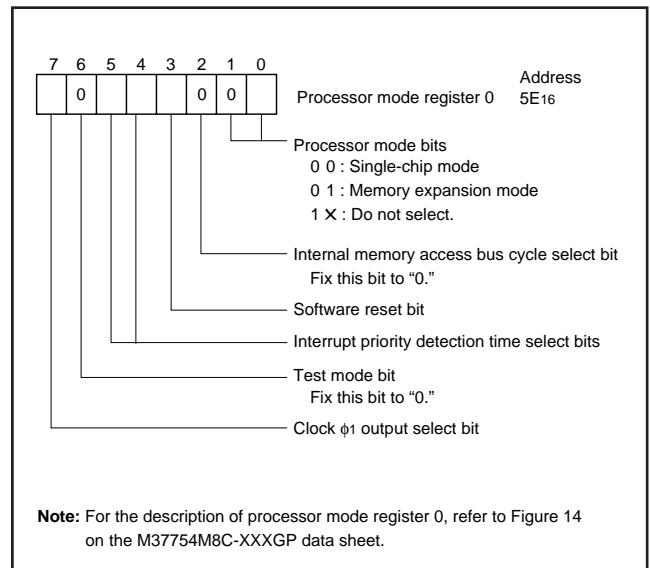

Fig. 23 Processor mode register 0 bit configuration in CPU reprogramming mode
Figure 23 shows the processor mode register 0 bit configuration in the CPU reprogramming mode. Set bit 1 to "0" (single-chip or memory expansion mode) in the CPU reprogramming mode. Set bit 2 (internal memory access bus cycle select bit) to "0."
- ① Apply 0 V to the CNVss/VPP pin for reset release.
- ② Set the processor mode register 0 (see Figure 23).
- ③ After CPU reprogramming mode control program is transferred to internal RAM, jump to this control program on RAM. (The following operations are controlled by this control program).
- ④ Set "1" (8-bit length) to data length select flag m.
- ⑤ Set "1" to the CPU reprogramming mode select bit.
- ⑥ Apply VPPH to the CNVss/VPP pin.
- ⑦ Read the CPU reprogramming mode monitor flag to confirm whether the CPU reprogramming mode is valid.
- ⑧ The operation of the flash memory is executed by software-command-writing to the flash command register .